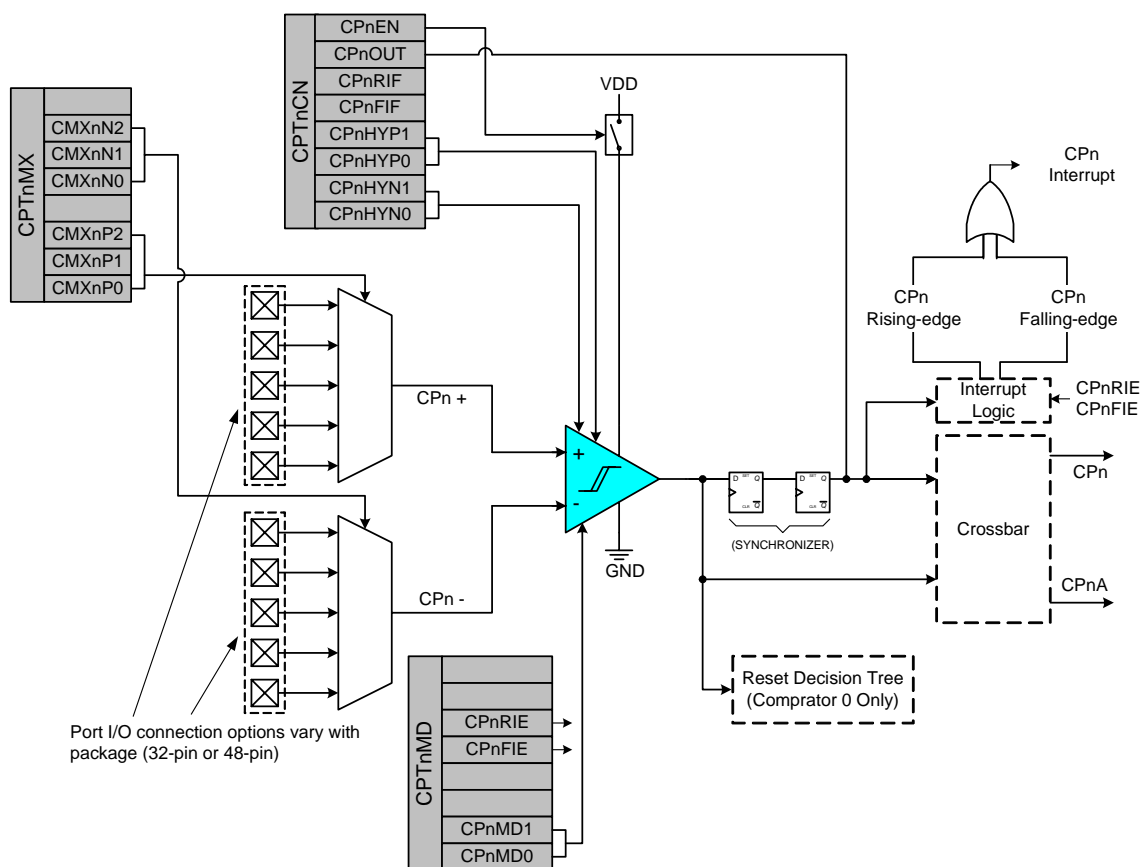

Figure 7.1. Comparator Functional Block Diagram
C8051F340/1/2/3/4/5/6/7 devices include two on-chip programmable voltage Comparators. A block diagram of the comparators is shown in Figure 7.1, where “n” is the comparator number (0 or 1). The two Comparators operate identically with the following exceptions: (1) Their input selections differ, and (2) Comparator0 can be used as a reset source. For input selection details, refer to SFR Definition 7.2 and SFR Definition 7.5.